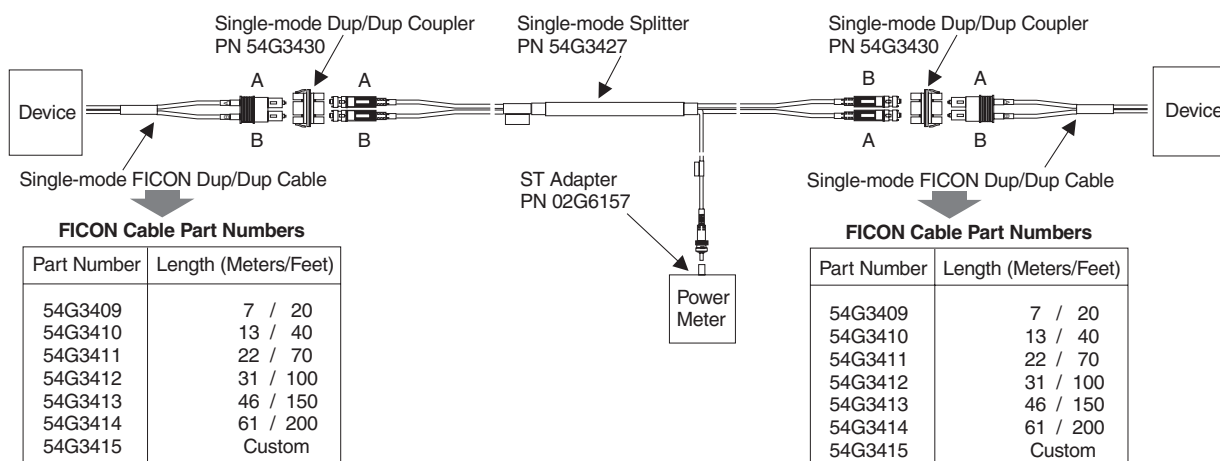

Figure 3-8. Isolating a Single-Mode Link Segment with a Splitter Tool
- Single-mode links—See Figure 3-8 on page 3-26.